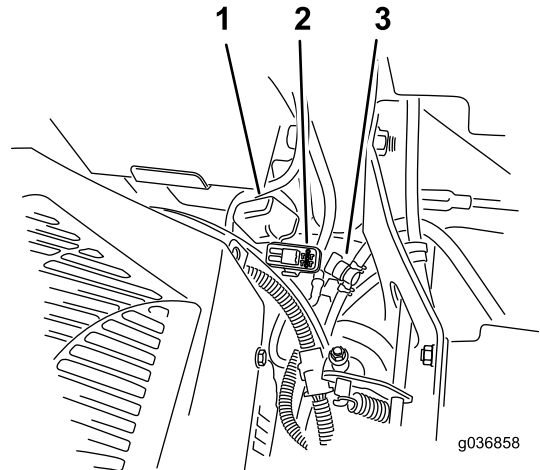

Figure 54
The fuses are located on the right console next to the seat (Figure 54).
2. Install a new fuse (Figure 54).